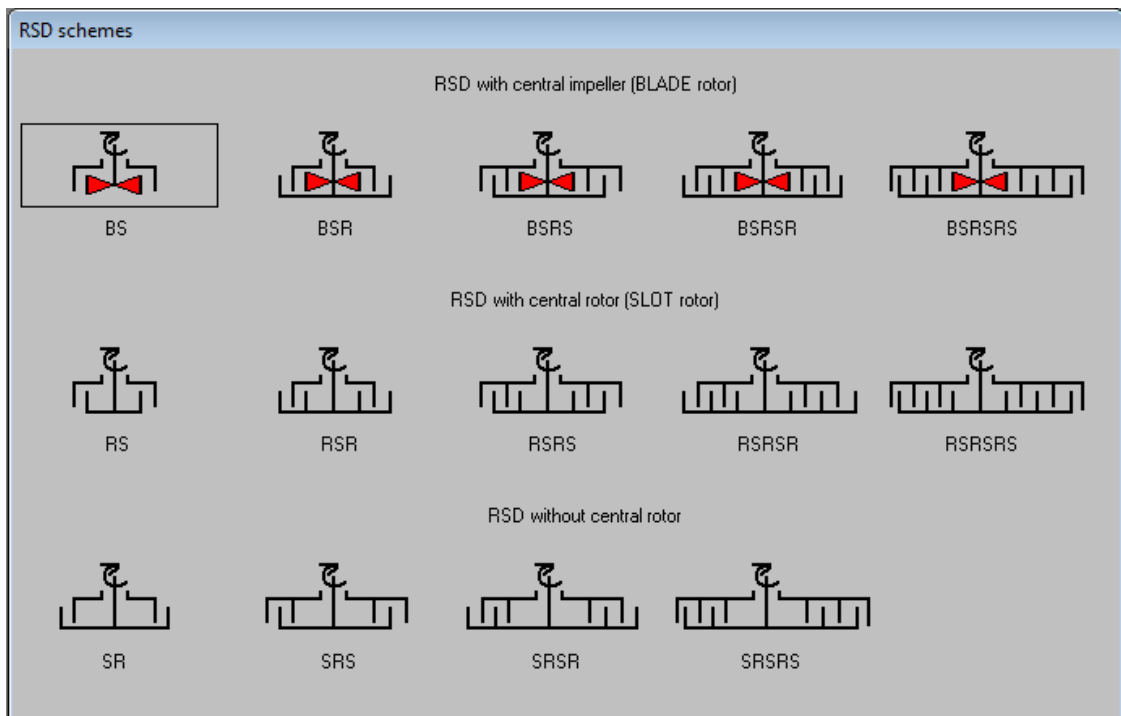

Figure 3.
1.2. After you click **Save**, the **RSD scheme** selection visual menu appears (Figure 3).